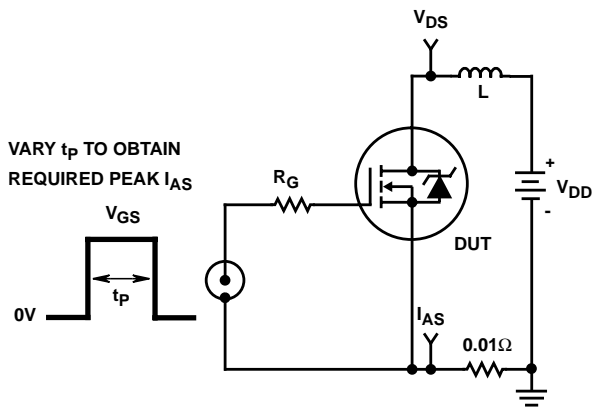

FIGURE 15. UNCLAMPED ENERGY TEST CIRCUIT
- $V_{DD} = 25\text{V}$, starting $T_J = 25^\circ\text{C}$, $L = 440\mu\text{H}$, $R_G = 25\Omega$, peak $I_{AS} = 28\text{A}$. (Figures 15, 16).